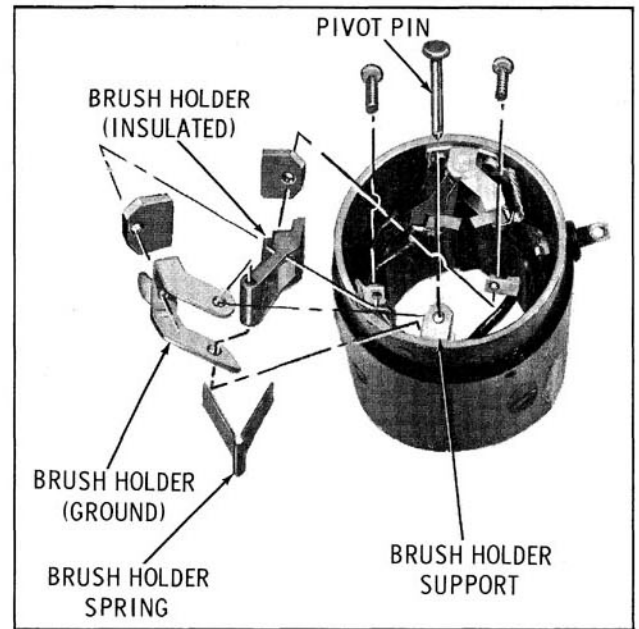

Fig. 13-51 Brush Installation
5. If necessary to replace brush holding parts, refer to fig. 13-51, then proceed as follows: